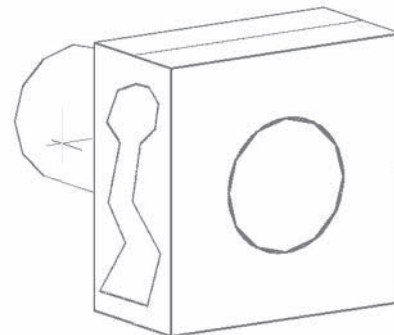

Fig. 45-9
14. Press the circle through the box solid until you see the extruded cylinder on the far side of the solid, as shown in Fig. 45-9, and click the mouse button.